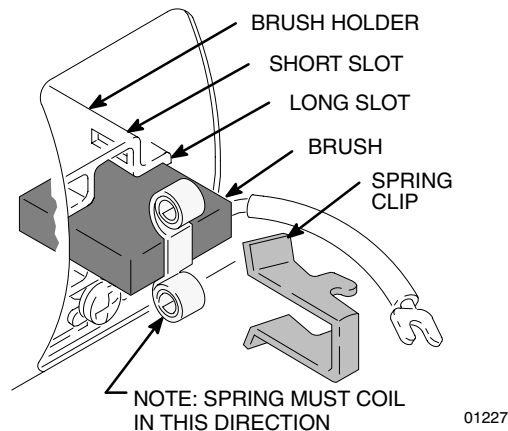

Fig. 13
6. Install new brush so lead is in long slot of holder. See Fig. 13.
8. Place spring on brush as shown in Fig. 13.
9. Install spring clip and push it down to hook short slots in housing. See Fig. 13.